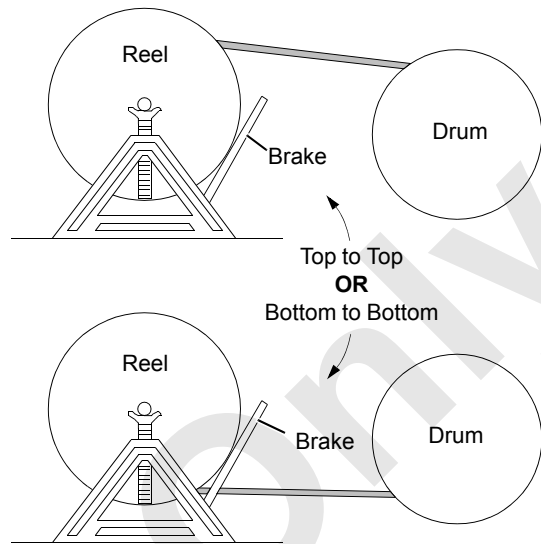

FIGURE 4-40
2. Provide a brake at shipping reel (see Figure 4-40) so wire rope can be wound tightly onto drum.
3. Avoid a reverse bend when winding wire rope onto drum: wind from top of reel to top of drum or from bottom of reel to bottom of drum as shown in Figure 4-40.